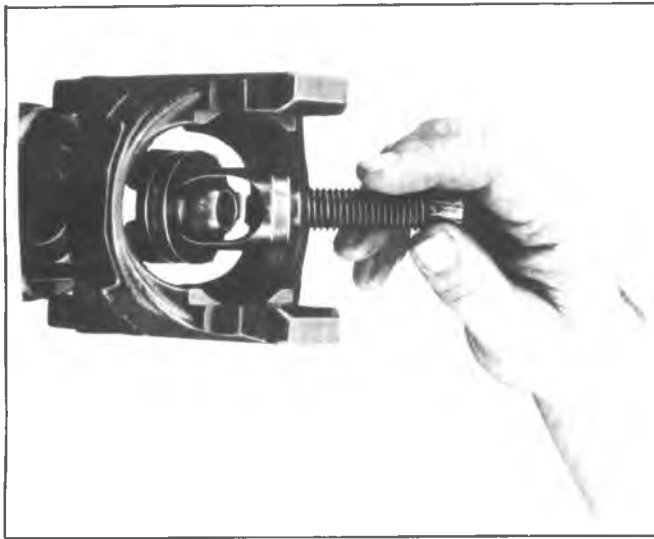

Fig. 4A-27--Installing Tool J-23996 Over Ball
7. Lubricate seal lip and press seal flush with Tool J-23694, as shown in figure 4A-31. Sealing lip should tip inward.